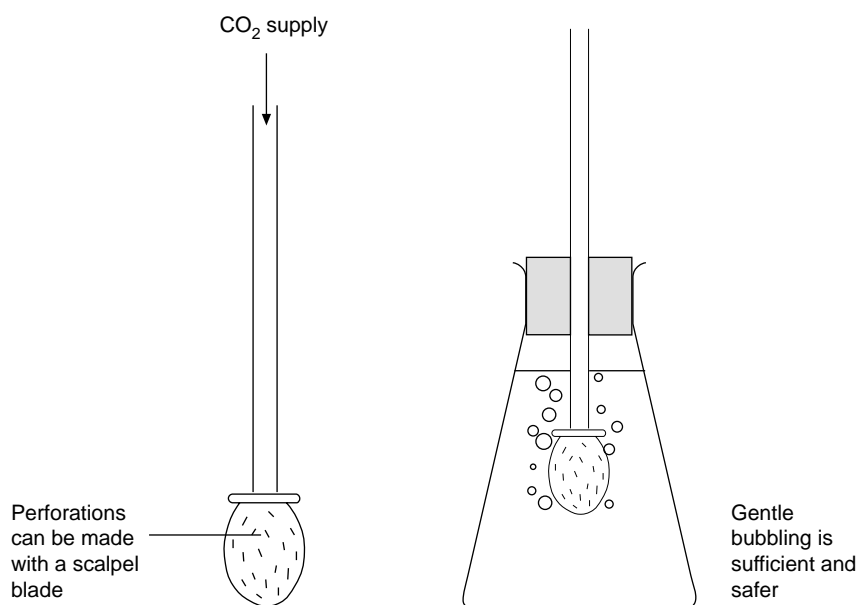

Figure 2 Perforated rubber policeman for CO₂ bubbling
- Carbon dioxide supply connected to a perforated rubber policeman (see Figure 2)
- Carefully bubble CO₂ through the solution as shown in Figure 2.